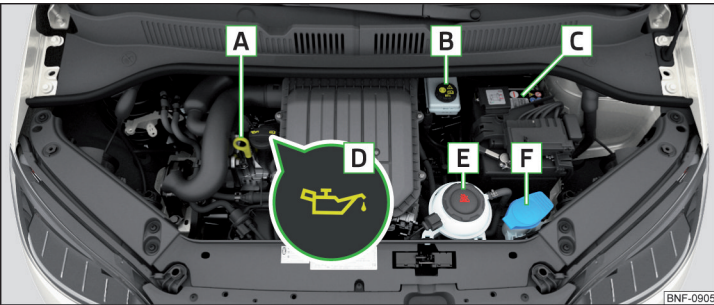

Fig. 139 Arrangement (example) in the engine compartment
- Unscrew the cap of the engine oil filler opening **D** » Fig. 139 on page 114.